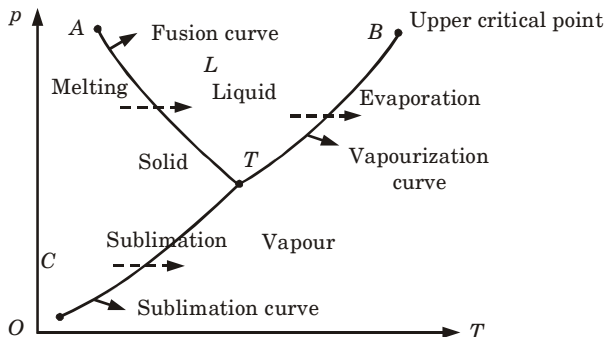

Fig. 5.
5. The Fig. 5 drawn below represents different phases of a substance as a function of pressure and temperature.
6. The Fig. 5 imparts following valuable information :
2. Triple point is shown by the point T in the Fig. 5. At triple point, all the three curves namely sublimation, fusion and vaporization and phases of substance meet each other.